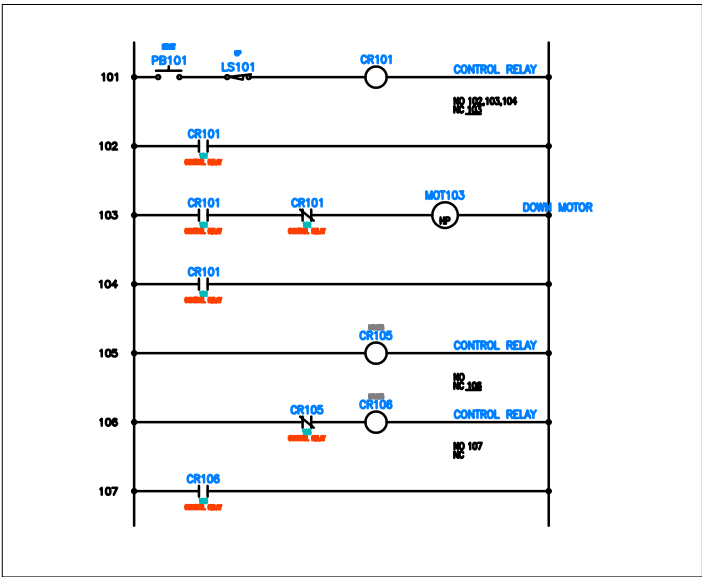

Figure 6-61 The updated drawing
3. Choose the **Skip** button from the **Update Related Components?** message box; the location codes are assigned to the selected components. If the **QSAVE** message box is displayed, choose the **OK** button from it; the drawings get updated and MCAB5 is displayed on the CR105 and CR106, as shown in Figure 6-61.